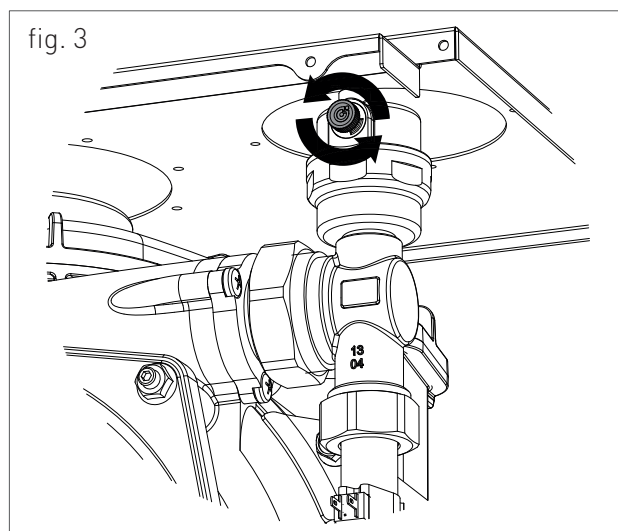

fig. 3
For machine positioning, proceed as follows (see fig. 3):
3. slightly loosen the cap of the jolly valve placed on the top of the condensing block (fig. 3) to release the air from the top of the system;